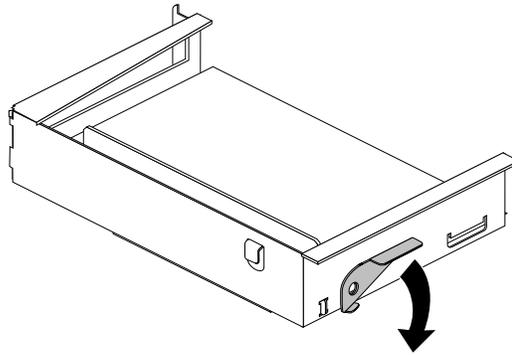

Figure 1-17 Returning the Lever to its Starting Position
1. Push the PCI tray lever to return it to its starting position (Figure 1-17).